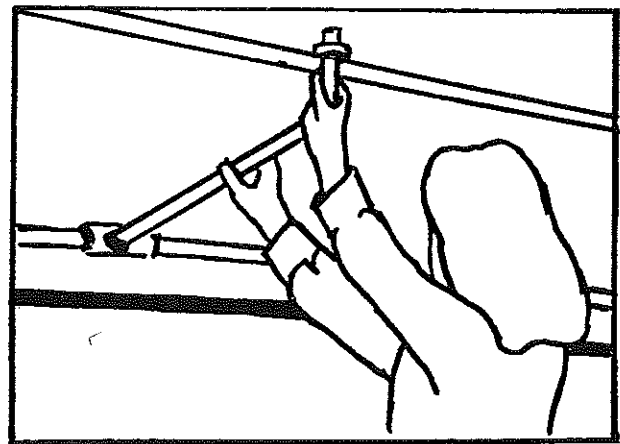

FIGURE 26
36. To completely support the tent enclosure over the bed (front and rear), attach the bed bow support by inserting the straight end into the bed bow. Insert the rounded end of the bed bow support into the roof retainer. See Figure 26.